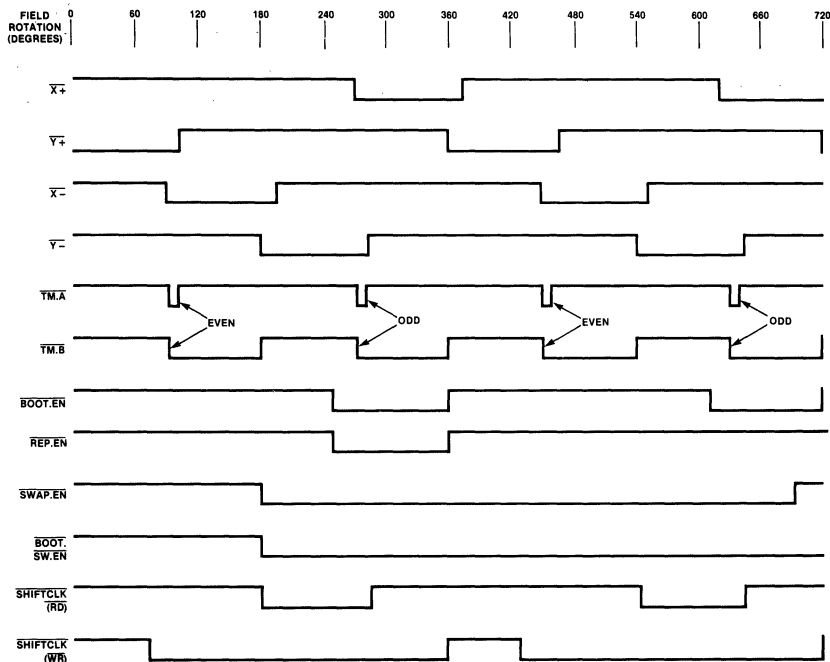

Figure 5. System Timing
2. Data cannot be written to the bubble memory until 40 clock cycles after $\overline{\text{SYNC}}$ (see Figure 5).